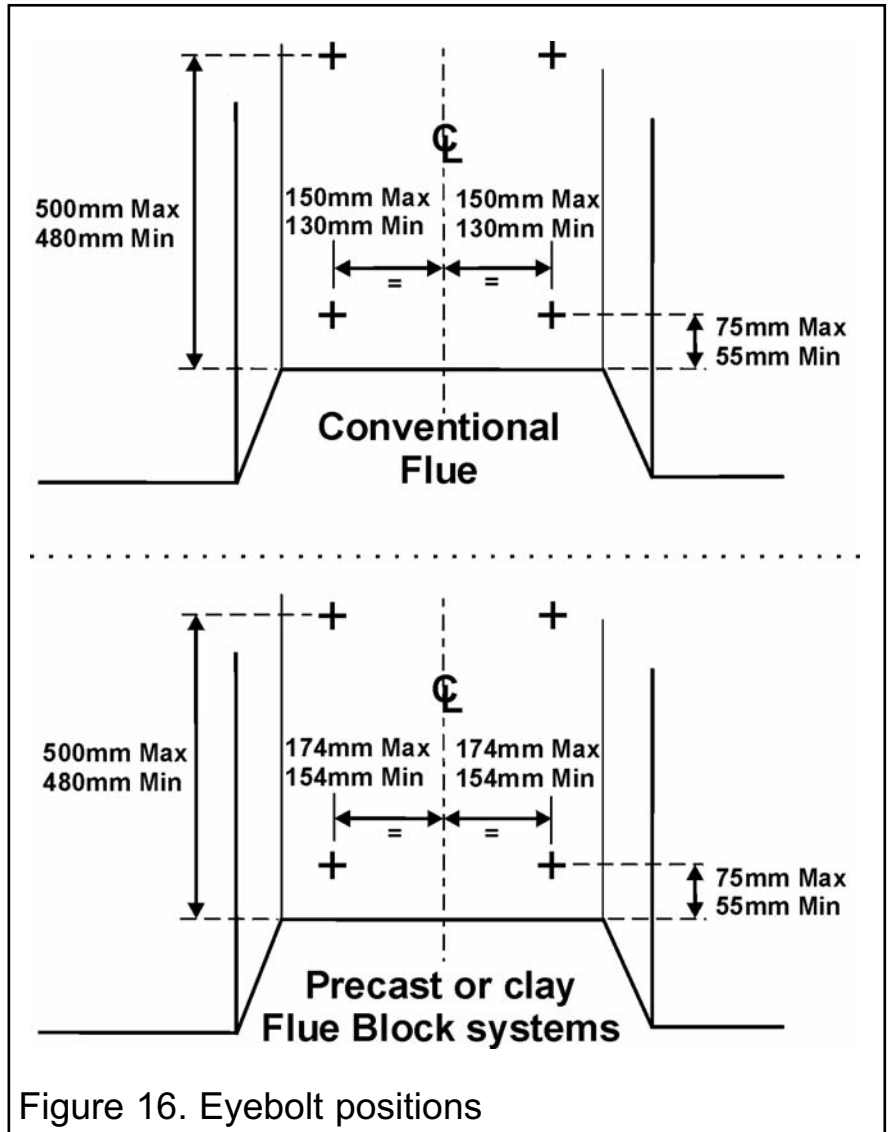

Figure 16. Eyebolt positions
2. Drill four holes in the rear wall of the fireplace for the eyebolt plugs. The holes should be drilled within the range of positions shown in figure 16 using a suitably sized drill bit for the wall plugs supplied. The holes should be equidistant each side of the centre line of the fireplace to ensure that the appliance finishes centrally in the opening when tension is applied to the cables.